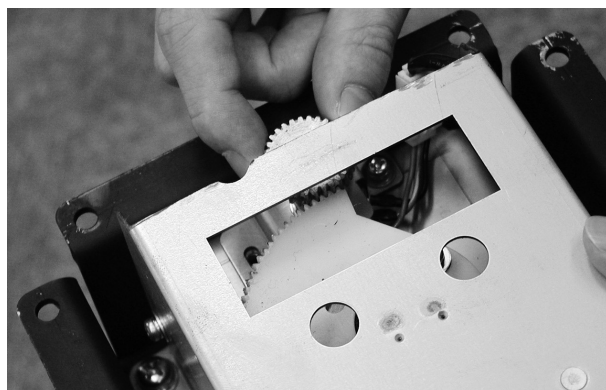

**FIG. 11-2b X Axis (Left and Right) Volume**
- 15** As in the above adjustment method, with the Control Unit's left and right axis perpendicular to the screen, engage the gears with the D cut face of the volume axis in the direction shown in the diagram and attach it to the Control Unit. (See FIG. 11-2b).